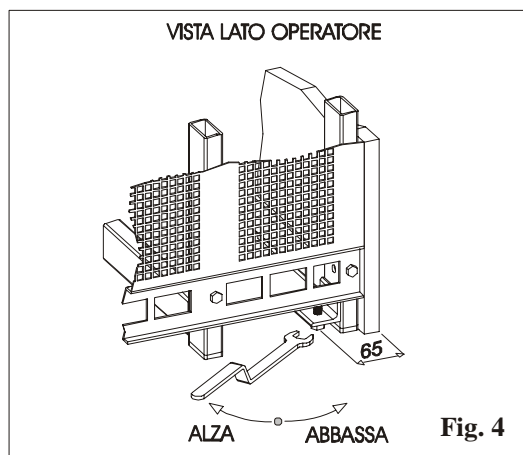

Fig. 4
- Check to ensure that the cabinet is level on the ground (fig.4).